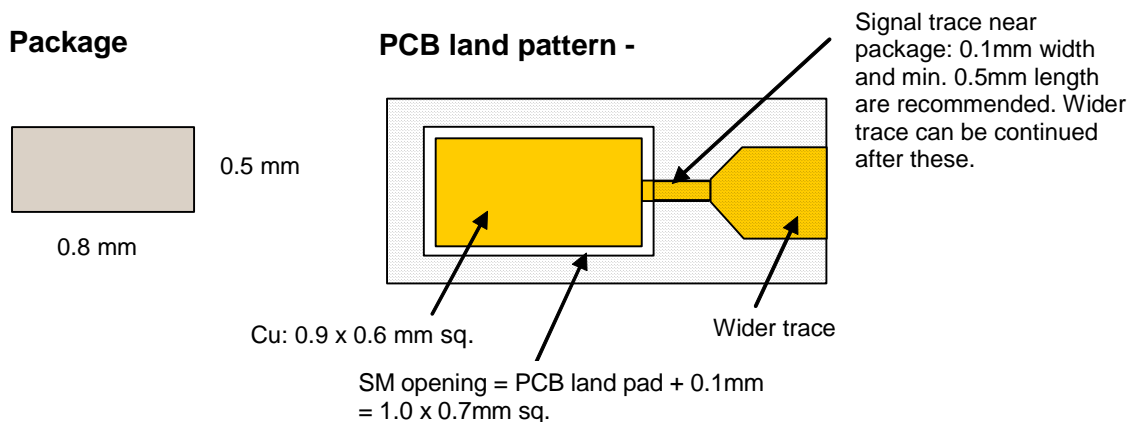
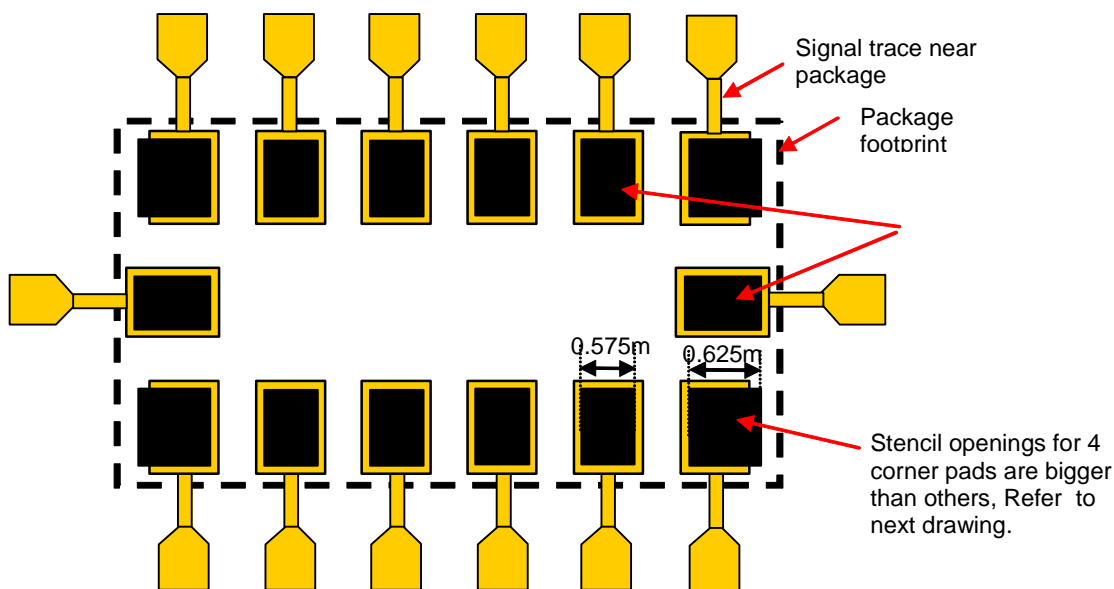
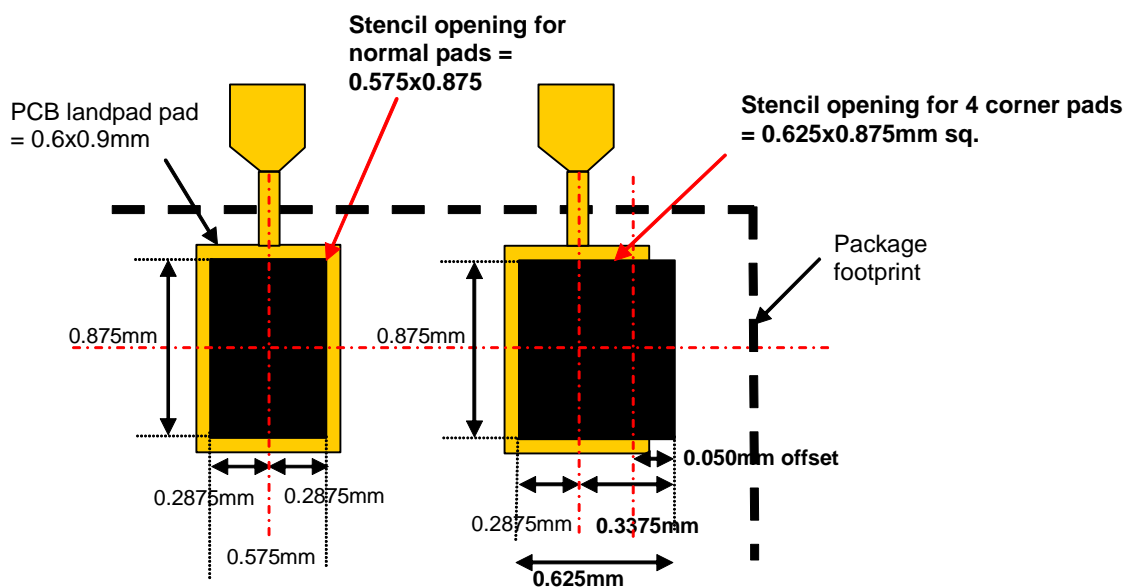

Figure 5. Recommended PCB Land Pad, Solder Mask, and Signal Trace Near Package Design
Figure 6. Stencil Design Guidelines
Figure 7. Stencil Design Guidelines (detailed dimensions for corner pads)
1. The PCB land should be designed with Non Solder Mask Defined (NSMD) as shown in Figure 5.
3. PCB land pad is 0.9mm x 0.6mm which is the size of the package pad plus 0.1mm as shown below in Figure 5.
4. The solder mask opening is equal to the size of the PCB land pad plus an extra 0.1mm as shown in Figure 5.
5. The stencil aperture size is equal to the PCB land pad - 0.025mm. Also note that for the 4 corner pads the aperture size must be larger for solder balancing as shown in Figure 6 and Figure 7. A 6mil thick stencil is recommended.
7. Signal traces connected to pads should be as symmetric as possible. Put dummy traces on N/C pads in order to have same length of exposed trace for all pads. Signal traces with 0.1mm width and min. 0.5mm length for all PCB land pads near the package are recommended as shown in Figure 5, Figure 6, and Figure 7. Wider trace can be continued after the 0.5mm zone.